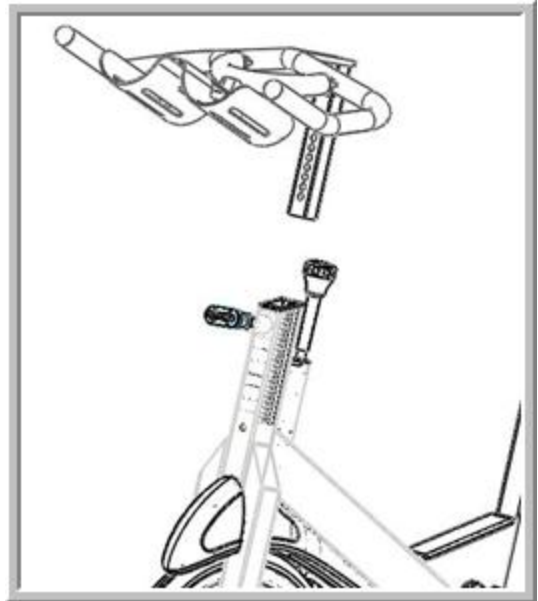

Fig. 7
7. Installing the Handle Bar (Fig. 7)